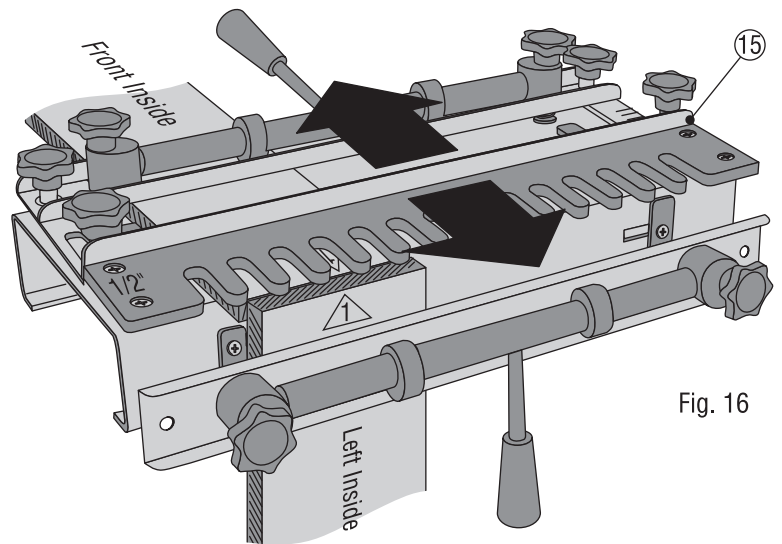

Fig. 16
- 2) If the tails protrude from the sockets, adjust the Back Stop (15) slightly backwards. This will allow the Router to cut deeper into the front piece. If the tails recess into the sockets, adjust the Back Stop slightly towards to the front of the Jig.
- See fig. 16.